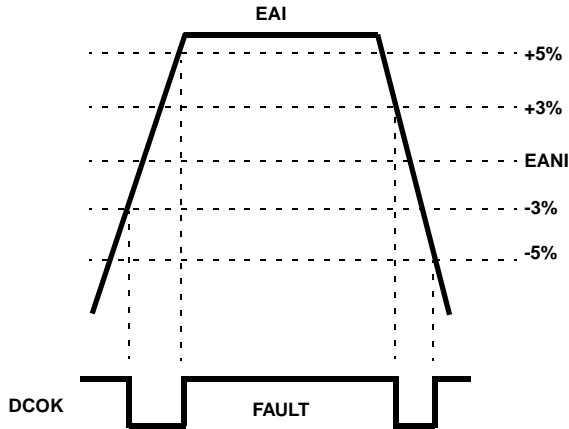

FIGURE 11. UNDERVOLTAGE-OVERVOLTAGE WINDOW
- DCOK pin is an open drain output capable of sinking 5mA. It is low when the output voltage is within the UVOV window. The static regulation limit is  $\pm 3\%$ , while the  $\pm 5\%$  is the dynamic regulation limit. It indicates power good when the EAI is within  $-3\%$  to  $+5\%$  on the rising edge and within  $+3\%$  to  $-5\%$  on the falling edge, as shown in Figure 11.